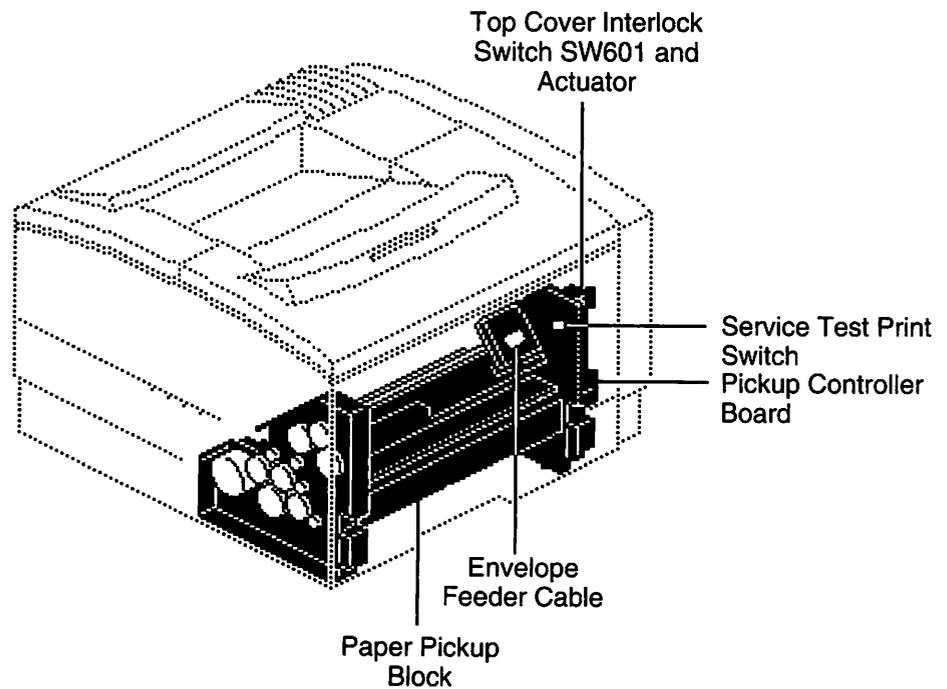

Figure 1-4
- The paper pickup block (see Figure 1-4) picks up and feeds paper toward the toner cartridge. The print cycle initiation components discussed below are part of the paper pickup block.
- The pickup controller board (see Figure 1-4) controls the paper pickup block and the 500-sheet feeder and envelope feeder controller boards when these options are installed.
- The top cover interlock actuator (see Figure 1-4) trips the top cover interlock switch SW601 when the top cover is open, signaling the DC controller that the cover is open.
- The service test print switch (see Figure 1-4) executes a service test print when activated.
- The envelope feeder cable (see Figure 1-4) connects the envelope feeder controller board to the pickup controller board.